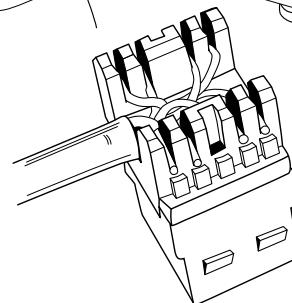

Fig 3
- 5) Repeat steps 3 & 4 until all conductors are terminated as shown in **Fig 3**.